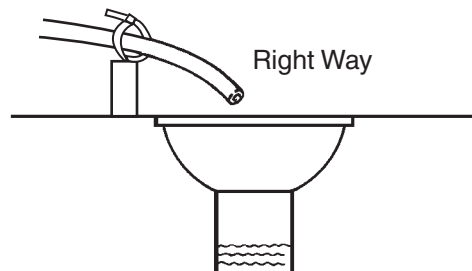

Figure 9 Drain Line Connection
**▲ WARNING:** Never insert drain line directly into a drain, sewer line, or trap (Figure 9 Drain Line Connection). Always allow an air gap between the drain line and the wastewater to prevent the possibility of sewage being back-siphoned into the softener.